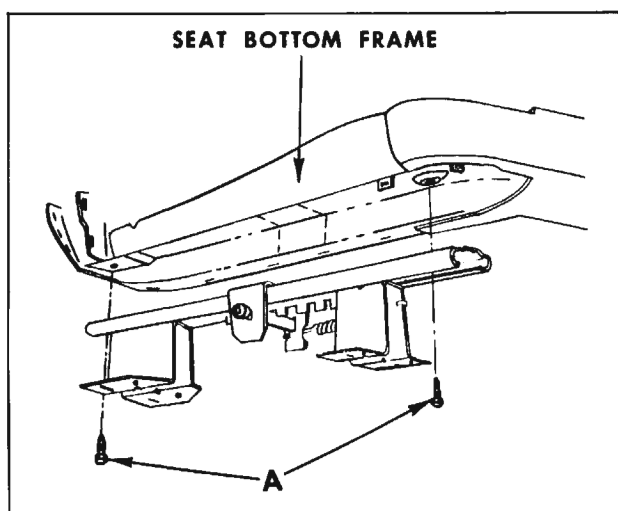

Fig. 16-77 Manually Operated Seat Adjuster
4. Remove adjuster-to-seat bottom frame front and rear attaching bolts and remove seat adjuster from seat assembly. (Fig. 16-77)